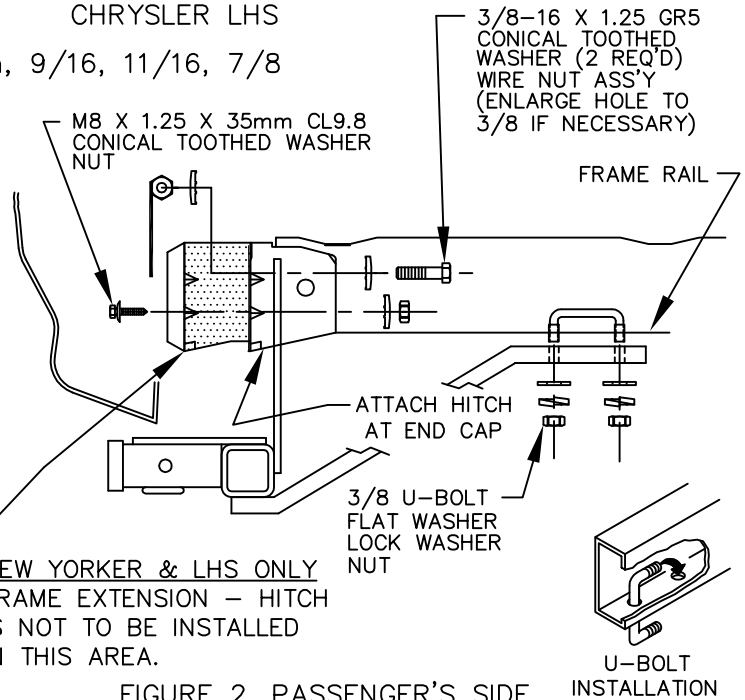

FIGURE 2. PASSENGER'S SIDE
9. REMOVE THE HITCH AND DRILL TWO 1/2" DIAMETER HOLES THRU THE PASSENGER SIDE FRAME RAIL. INSTALL THE 3/8 U-BOLT IN THE PREVIOUSLY DRILLED HOLES, SEE FIG 2.